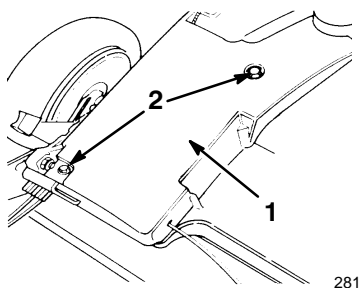

Figure 26
1. With the engine turned off, remove the two bolts that secure the belt cover (Fig. 26).
2. Remove the bolts that secure the belt cover to the lawn mower housing (Fig. 26).